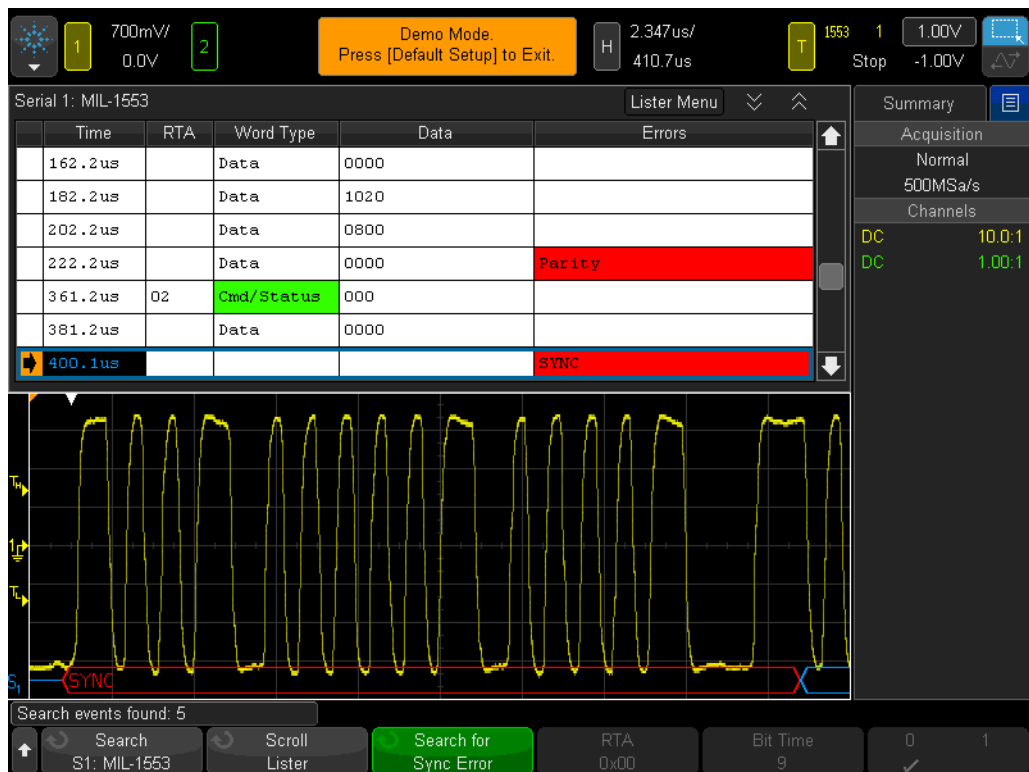

Figure 101 Using the lister in conjunction with the search feature to find sync errors.
- 18 Use the \blacktriangleleft and \blacktriangleright front panel navigation keys to automatically scroll through all search results. The lower screen will automatically zoom into the sync error in the search list, and point to it in the lister window. See Figure 101.